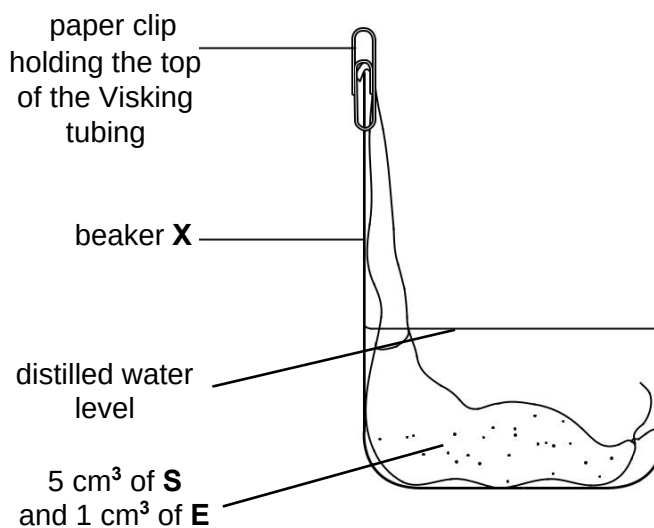

Fig. 1.1
Fig. 1.1 shows the apparatus you will set up for this investigation.
Look carefully at Fig. 1.1. This has been set up so that the volume of water is as small as possible to cover the Visking tubing. The part of the Visking tubing containing the mixture is on the bottom of the beaker.
6. Put the Visking tubing into the beaker, labelled **X**, as shown in Fig. 1.1.
7. Put **W** into the beaker up to the level shown on Fig. 1.1 using a syringe so that you can measure the volume of **W**.
- (a) (i) State the volume of **W** needed to reach the water level as shown in Fig. 1.1.